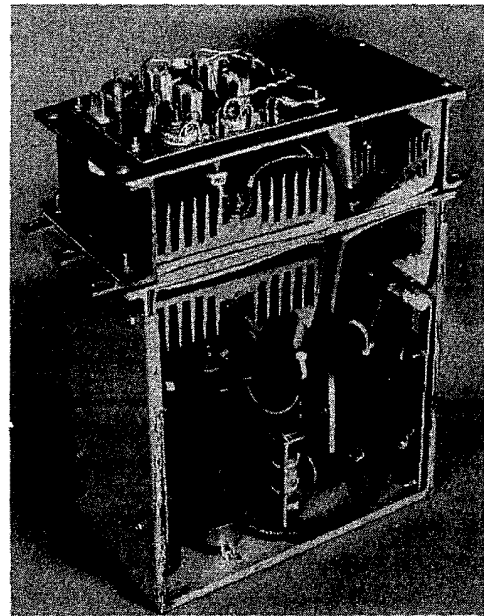

FIGURE 20
2. Stand the Inverter Phase Module on its back side on a high table. The Pulse Transformer printed circuit card should be on top. (Normally on the front of the module). See Figure 20.